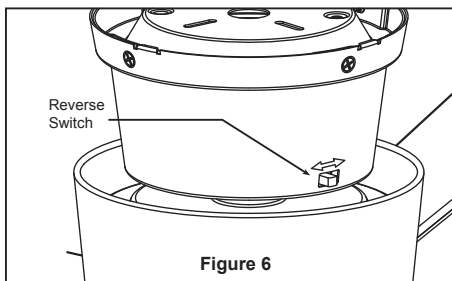

Figure 6
- ☐ 4. Hang the motor assembly from the ceiling bracket assembly using the hook on the ceiling bracket assembly and the cable loop from the motor assembly as shown. (Figure 6)
- ☐ 6. Assemble the LED assembly to the light kit using the two key slots. Replace the removed screw from Step 3 and secure all three screws. (Figure 6)
- ☐ 6. If airflow is desired in the opposite direction, turn the fan off and wait for the blades to stop turning. Then slide the reverse switch on top of motor assembly to the opposite position and turn fan on again. (Figure 6)